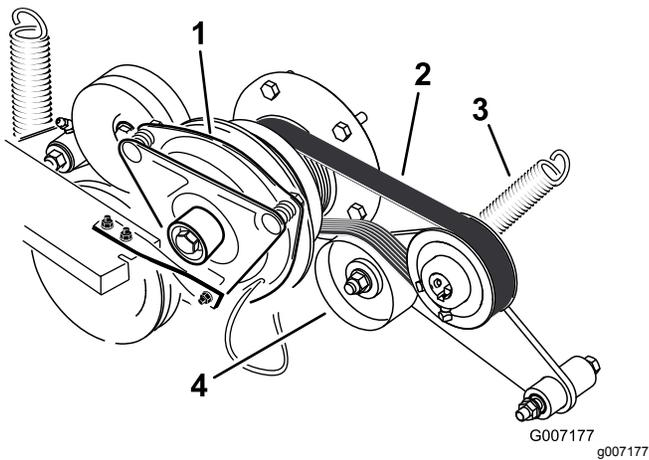

Figure 73
3. Remove the spring from the idler arm (Figure 73).
4. Install the new belt around the engine and hydraulic pump pulley (Figure 73).
6. Install the spring to the idler arm (Figure 73).